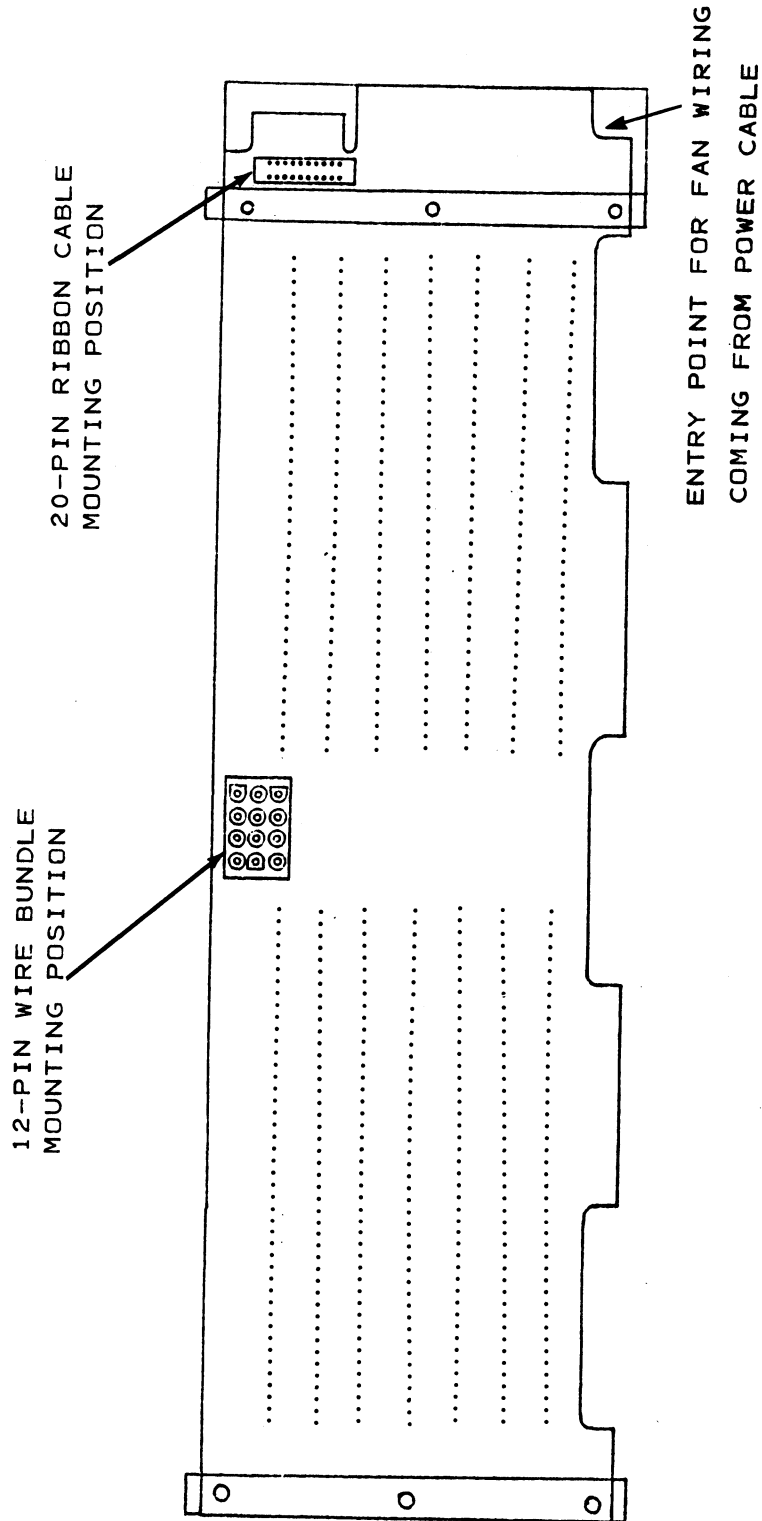

FIGURE 4-5. POINT 4 PROCESSOR CHASSIS BACKPLANE CONNECTOR MOUNTING POSITIONS
4. Power Supply Cabling: The POINT 4 processor chassis comes with a 6 foot long cable assembly attached to the rear of the chassis. This cable assembly consists of a ribbon cable and a wire bundle strapped together. Processor chassis connections are made at the factory. Check to ensure that these cables are properly connected to the chassis. Mounting positions on the processor chassis are illustrated in Figure 4-5. Connectors and their mounting positions are: